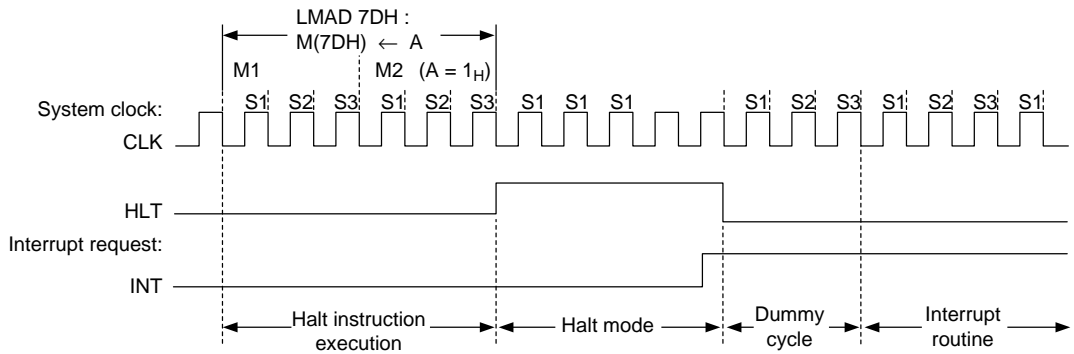
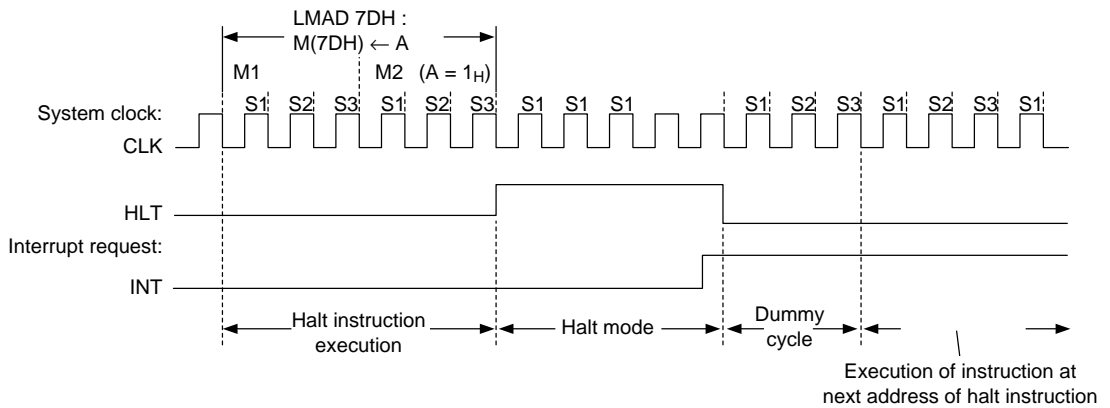

Figure 3-4 Timing of Halt Mode Set and Halt Mode Reset by Interrupt (when the MI flag = "1")
Figure 3-5 Timing of Halt Mode Set and Halt Mode Reset by Interrupt (when the MI flag = "0")
System reset or an interrupt can release halt mode (reset of the HLT flag). To release halt mode by an interrupt, it is necessary to set the interrupt enable flag to "1" before entering halt mode. Figure 3-4 shows timing to enter halt mode and release timing of halt mode by an interrupt.
Execution of instructions after the release of halt mode depends on the status of the master interrupt enable flag (MI). When the MI flag is "1", execution of instructions is resumed after one dummy cycle by an interrupt process routine as shown in Figure 3-4. When the MI flag is "0", execution of instructions is resumed with a dummy cycle after the following address that the halt instruction is placed as shown in Figure 3-5.